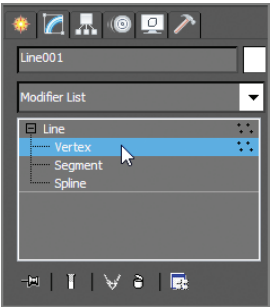

FIGURE 2.21 The three sub-objects of the Line command, select Vertex.
- 6. Select Vertex, as shown in Figure 2.21.